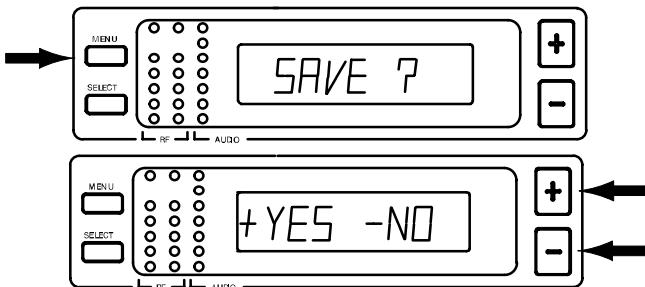

FIGURE 24
6. When the new name has been completely entered, press the MENU button. “SAVE?” appears, followed by “+ YES – NO”. Press the “+” button to save the new name and return to the Group/Channel/TV display. Press the “–” button to make more changes. See Figure 24.